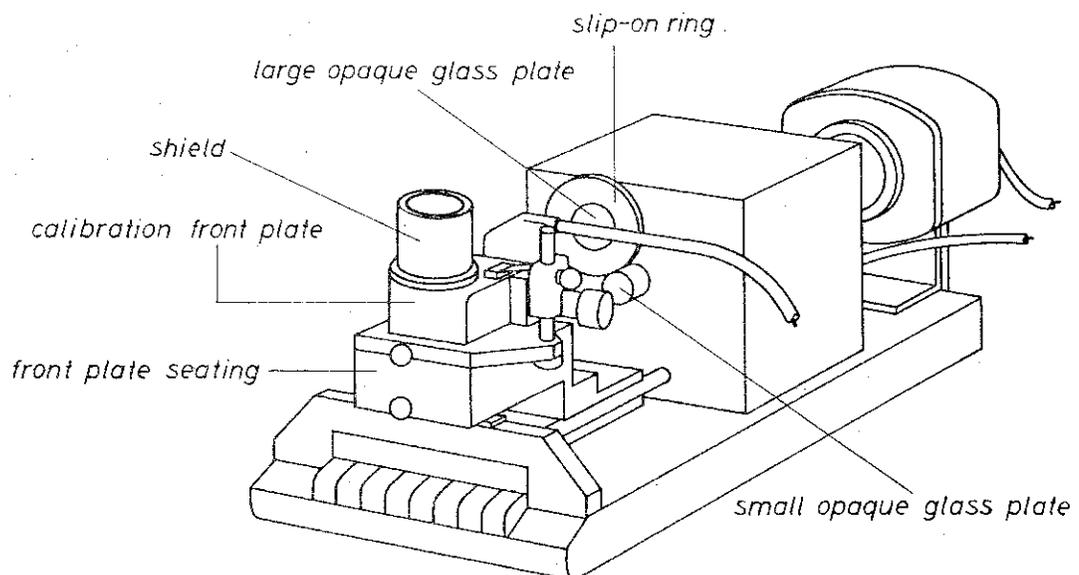

Fig. 8.1
- 2.1 Key 6 of test light remains depressed. Fit slip-on ring (see Fig. 8.1) over large illuminated opaque glass plate.